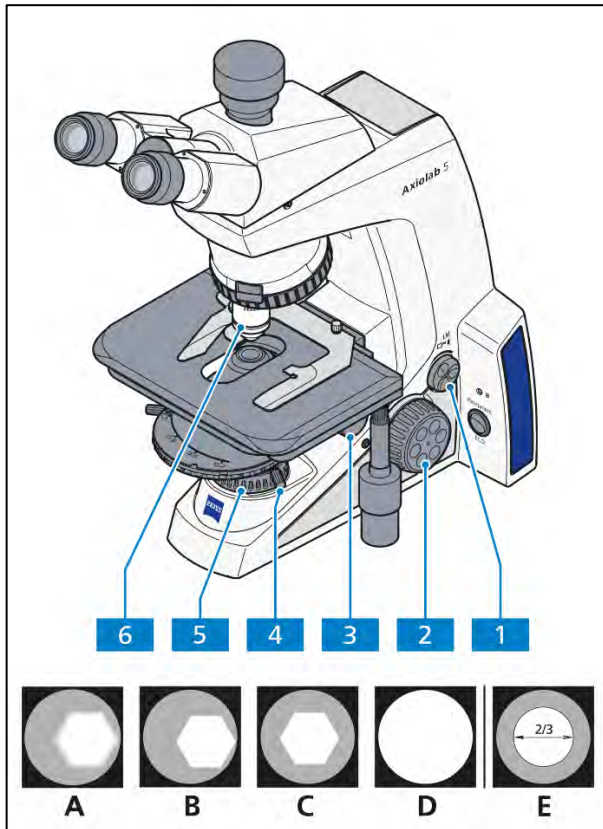
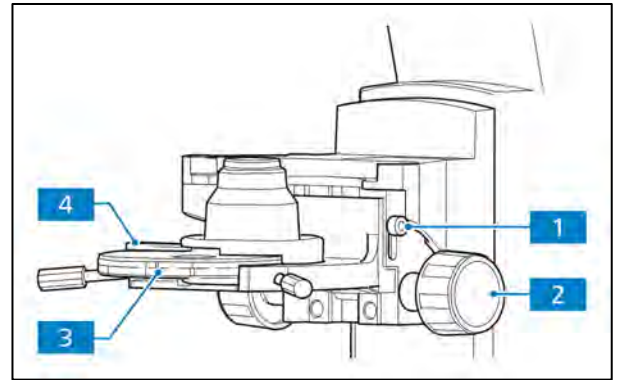

Fig. 4-3 Microscope settings in transmitted light brightfield microscopy
Fig. 4-4 Setting the height stop on the condenser carrier
(3) Configuring transmitted light brightfield microscopy using the KÖHLER method
- Adjust the image brightness using the Intensity/LM knob (Fig. 4-3/1) on the microscope stand.
- If condensers with a swiveling front lens are used, swivel these into the beam path with $\geq 10\times$ objectives and set the condenser with the knurled knob for vertical adjustment (Fig. 4-3/3 or Fig. 4-4/2) to the upper stop. The stop must be adjusted so that the specimen is not lifted by the condenser (to set the condenser stop, see section 4.2.1 (4)).
- When using condensers with a turret/modulator disk and knurled ring (Fig. 4-4/3), set position **B** (or **H** = brightfield).
- Swivel in the 10x objective on the nosepiece (Fig. 4-3/6) and use the focus drive to focus on the specimen (Fig. 4-3/2).
- Close the luminous-field diaphragm (Fig. 4-3/5) until it is visible (even if not in focus) in the field of view (Fig. 4-3/A).
- Turn the vertical control of the condenser drive to lower the condenser until the edge of the luminous-field diaphragm appears in focus (Fig. 4-3/B).
- Center the luminous-field diaphragm using the two centering screws (Fig. 4-3/4) on the condenser carrier (Fig. 4-3/C) and then open the luminous-field diaphragm until the edge of the diaphragm just disappears from the field of vision (Fig. 4-3/D).
- To adjust the aperture diaphragm (contrast), remove an eyepiece from the eyepiece tube and look into the tube with the naked eye. Set the aperture diaphragm with the adjusting lever (Fig. 4-4/4) to between $2/3$ - $4/5$ of the diameter of the exit pupil of the objective (Fig. 4-3/E). In most applications, this aperture diaphragm setting provides optimal contrast at almost ideal resolution, and is therefore the best compromise for the human eye.
(4) Setting the height stop on the condenser carrier
- Loosen the fastening screw (Fig. 4-4/1) of the height stop using an Allen wrench (AF 3).
- Close the luminous-field diaphragm and focus it by turning the vertical control (Fig. 4-4/2) of the condenser.
- Tighten the fastening screw (Fig. 4-4/1) of the height stop.